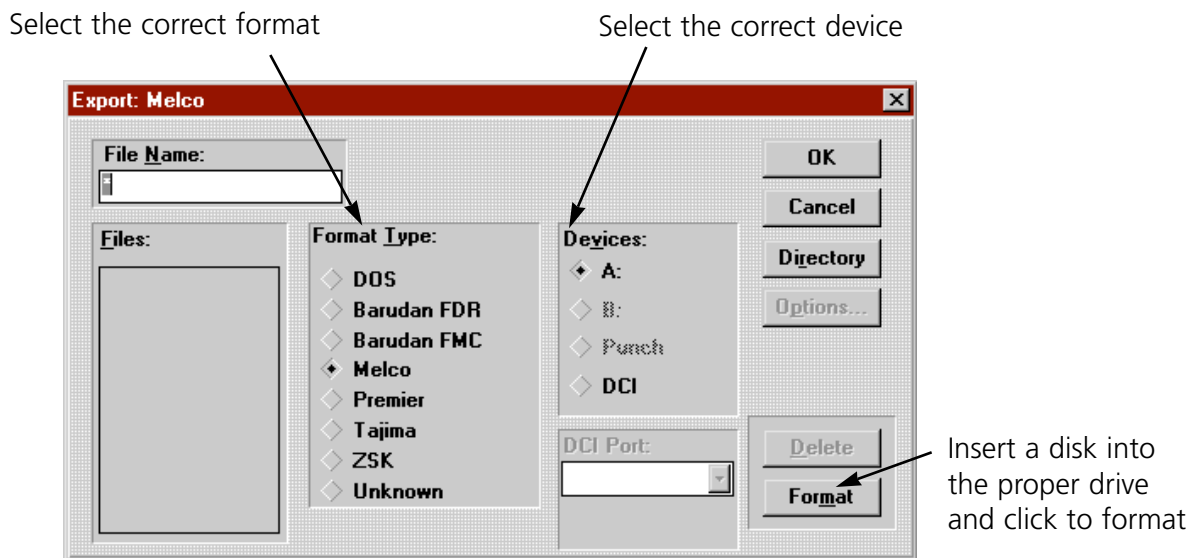

Figure 11-2
1. Click on File→Import or File→Export to display the Import or Export dialog box (Figure 11-2).